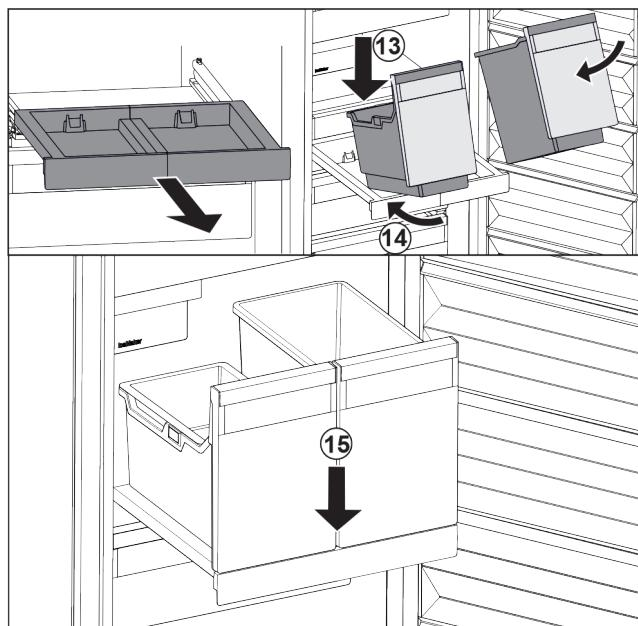

Fig. 106
- ▶ Place the container at an angle on the pull-out board. Fig. 106 (13)
- ▶ Slide the container to the back at an angle. Fig. 106 (14)
- ▶ Place container in the front. Fig. 106 (15)